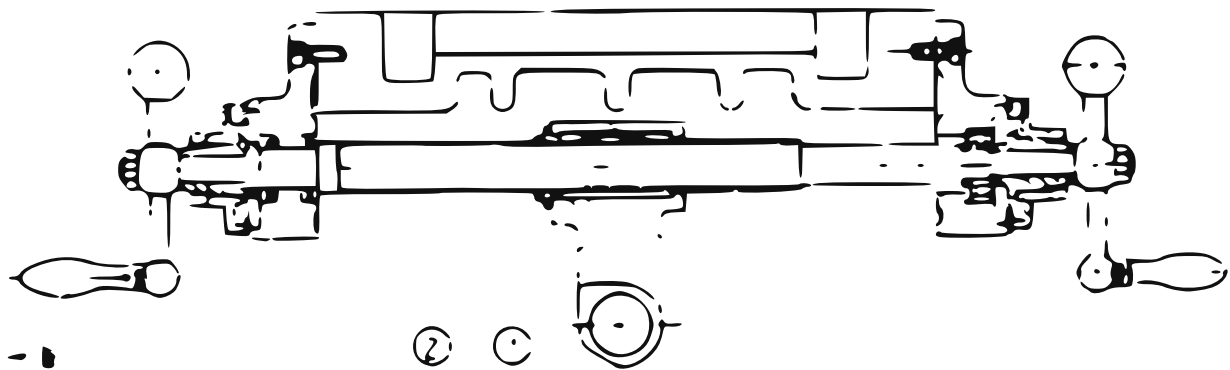

Figure 7-7: Longitudinal leadscrew
Numbers refer to Figure 7-7.
- 1 If the crank (Figure 7-7, 3) feels too loose, slightly loosen the gib adjusting screw on the right side of the saddle.